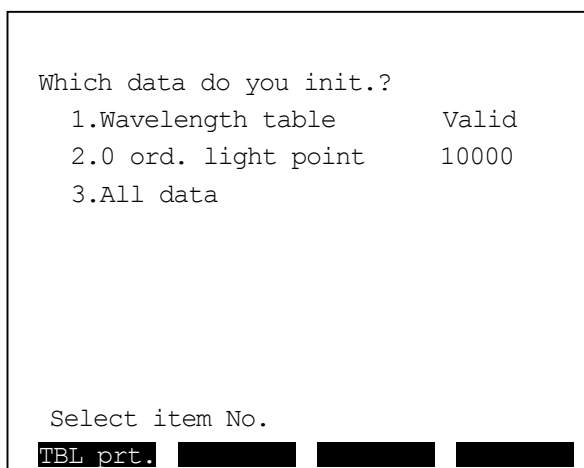

Fig. 8-15 EEPROM data initialize
- 1) Press the [1] key at the condition set screen to select “1. EEPROM data initialize” (see Fig. 8-15).